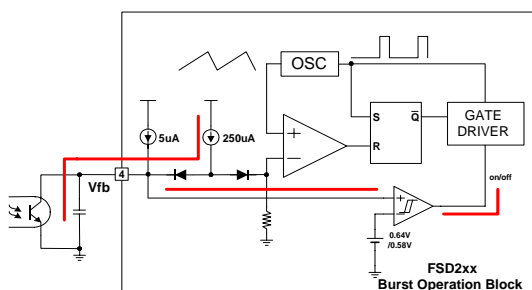
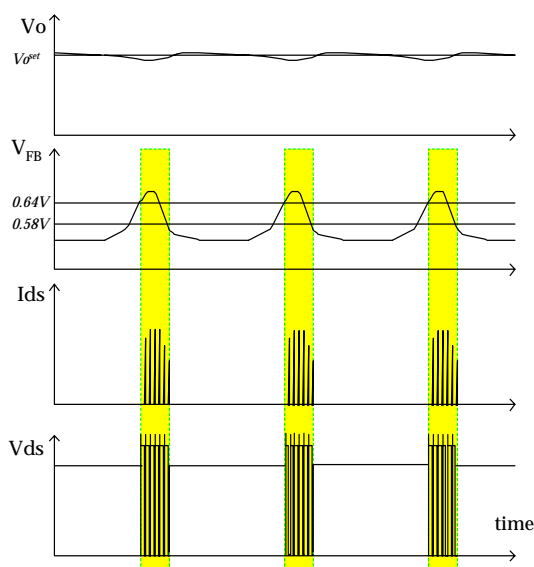

Figure 12. Circuit for burst operation
Figure 13. Burst mode operation
6. Burst operation : In order to minimize the power dissipation in standby mode, the FSD200/210 implements burst mode functionality (see figure 12). As the load decreases, the feedback voltage decreases. As shown in figure 13, the device automatically enters burst mode when the feedback voltage drops below $V_{BURL}(0.58V)$. At this point switching stops and the output voltages start to drop at a rate dependant on standby current load. This causes the feedback voltage to rise. Once it passes $V_{BURH}(0.64V)$ switching starts again. The feedback voltage falls and the process repeats. Burst mode operation alternately enables and disables switching of the power Sense FET thereby reducing switching loss in